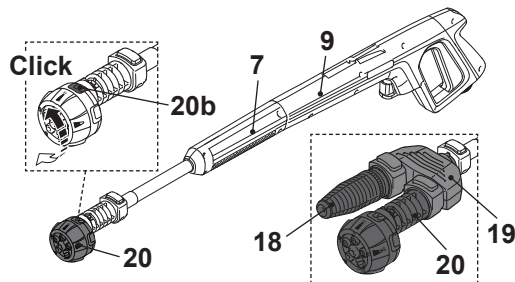

Fig. 9
1. Attach the extension lance (7) onto the spray gun (9) (Fig. 9).
2. Attach the 5 in 1 nozzle (20) onto the extension lance.